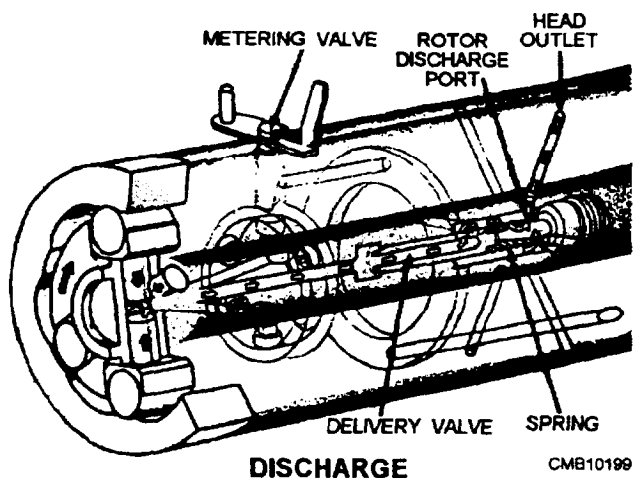

Figure 5-16.—Rotor in discharge position.
- With the discharge port open (fig. 5-16), both rollers come in contact with the cam ring lobes, which forces them toward each other. This causes the plungers to pressurize the fuel